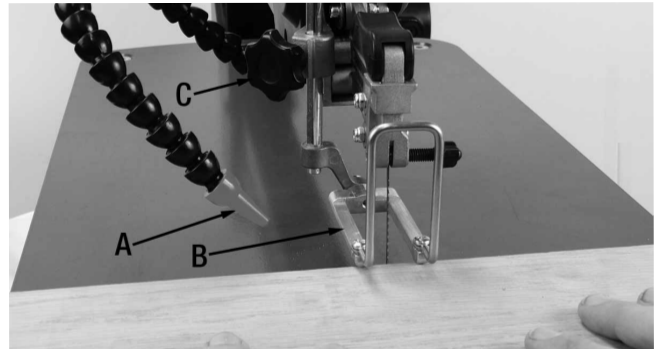

FIGURE 7
The built-in blower can be adjusted to keep the workpiece clear of dust, ensuring reference lines are visible. Adjust the nozzle (A) Fig.7 so that it is a comfortable distance away from your hands as you move the workpiece.
This Scroll Saw has a drop foot (B) Fig.7 that must be adjusted to hold the workpiece against the table during cutting. The drop foot can be adjusted up and down by turning the lock knob (C). Loosen the lock knob to set the drop foot at the desired height. Once the height is set, (ensuring the workpiece is still free to move underneath) retighten the lock knob.